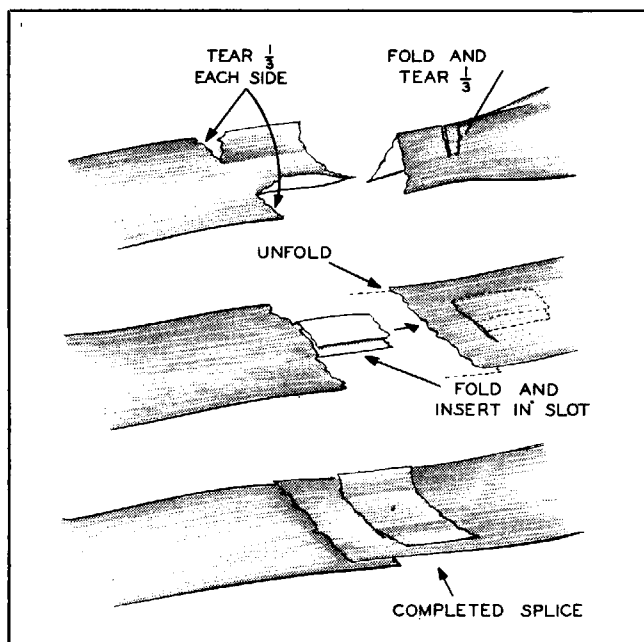

Figure 5-7. Method of Splicing Broken Tape Ends
d. If necessary, splice the tape as shown in figure 5-7.